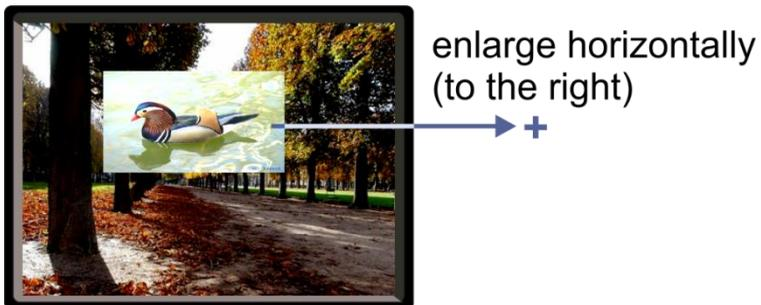

Figure 7: Increasing the Width
3. Select H width (an OSD slide bar appears) and press + to increase the width, or – to decrease the width, see Figure 7.